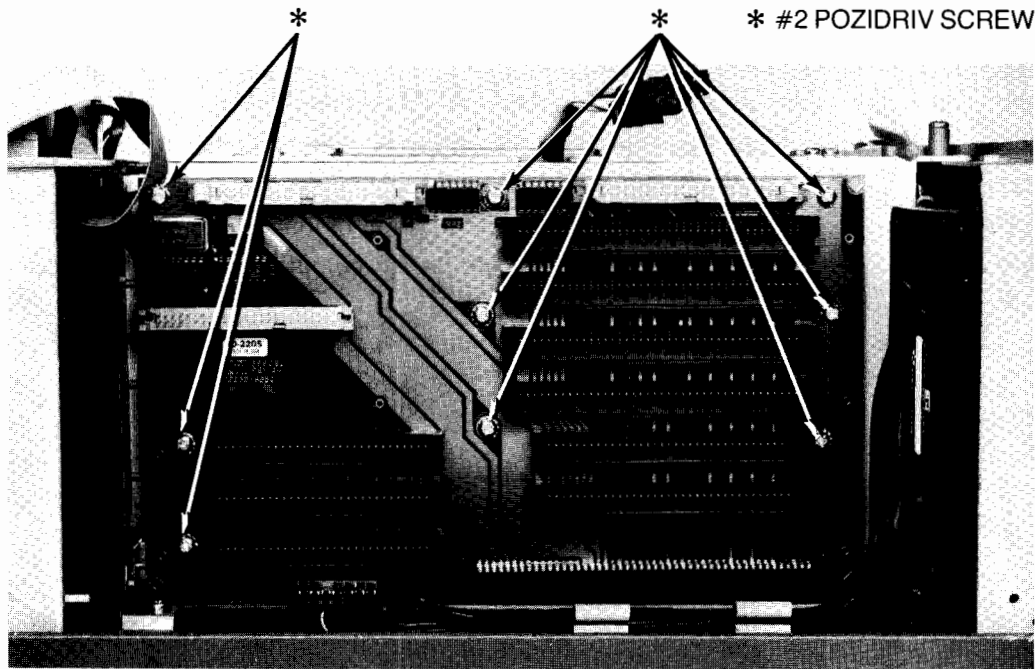

Figure 4-75. Removing I/O Backplane
5. Remove nine #2 Pozidriv screws that attach I/O backplane to power supply bucket (Figure 4-75).